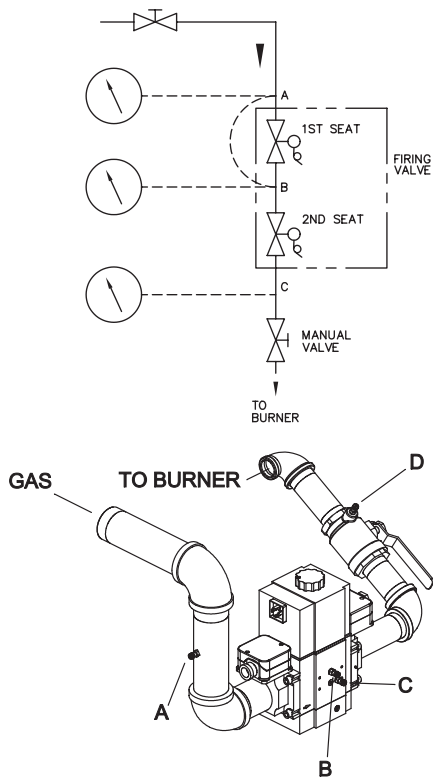

Fig. 47: Leak Test Procedure
3. Attach (1) 24" scale manometer to the manifold pressure tap located on the shutoff valve downstream of the firing valve (Measure point "D" in Fig. 47).
Test point C is a bleedle valve located downstream of both automatic gas valve seats and upstream of the manual valve. Refer to Fig. 47.